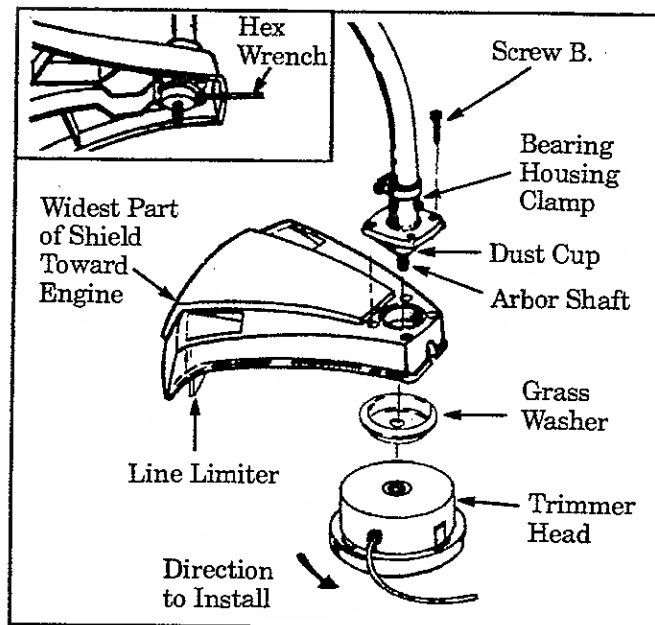

Figure 4
Failure to install shield in the position shown in Figure 4 can result in serious injury to the operator. The length of the shield must be aligned with the length of the tube.
1. Place the shield under the bearing housing and align screw holes. Figure 4.
5. Install the grass washer over the arbor shaft. Make sure the grass washer is against and curved over the dust cup. Figure 4.
6. Start threading the trimmer head onto the arbor shaft as shown in Figure 4.
8. Insert the small hex wrench (provided) into the aligned holes to keep the arbor shaft from turning. Figure 4 (inset).